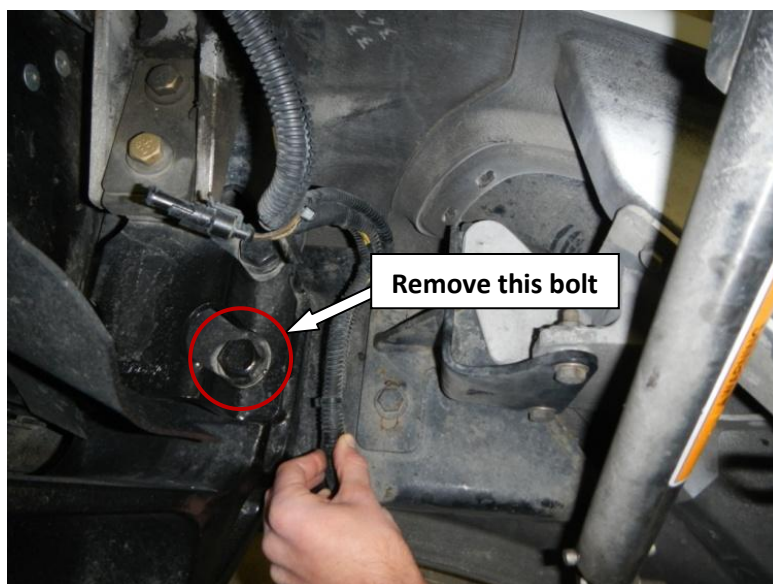

Figure 3 – Passenger's side shown
2. Remove two factory tow receiver M16 bolts (one per side) using 24 mm wrench (Figure 3).
- b. Holes are to be cut through both the outer shell and inner lining of the factory bumper. Dimensions for the passenger's side cut out is shown in Figure 3, driver's side cut out is symmetrical.